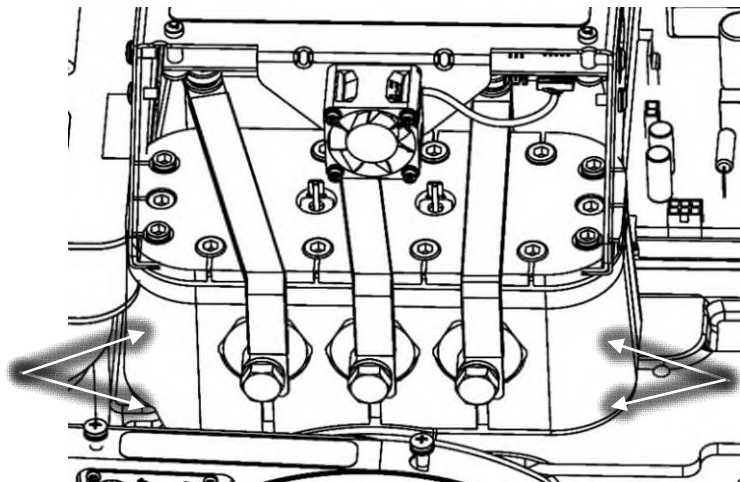

Figure 3 – Soft Start Mounting Fasteners
10. Remove the fasteners that secure the Soft Start mounting bracket to the compressor. Refer to Figure 3 (Soft Start Mounting Fasteners).